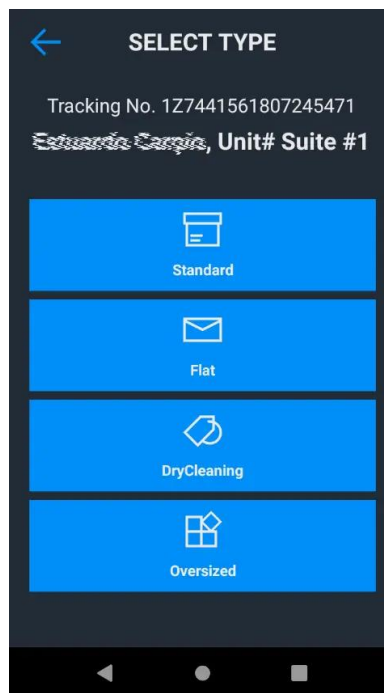

Figure 28: Indicating an oversized or flat package
- Depending on the type, tap **Oversized** or **Flat**, see Figure 28. This option is site-specific and may have a different option name.